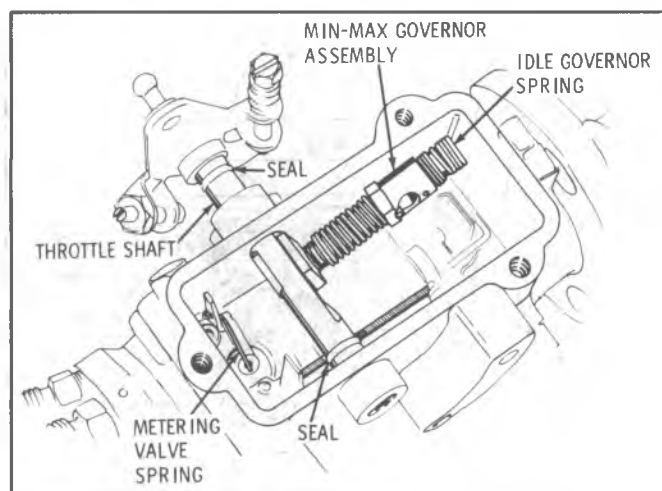

Fig. 6A6-8--Injection Pump Cover Removed
8. Reinstall the guide stud with a new washer making certain that the upper extension of the metering valve spring rides on top of the guide stud. Torque the guide stud to 9.5 N·m (85 in. lbs.) Overtorquing the guide stud may strip the aluminum threads in the housing (Figs. 6A6-5 and 6A6-8).
10. Install new pump cover seal. Make sure the screws are not in the cover and position the cover about 1/4 inch forward (toward shaft end) and about 1/8 inch above the pump (Fig. 6A6-10).
13. Turn the ignition switch to the run position and touch the pink solenoid wire to the solenoid. A clicking noise should be heard as the wire is connected and disconnected. If this clicking is not observed, the linkage may be jammed in a wide open throttle position and the engine **MUST NOT** be started. If clicking is observed, connect the pump solenoid and (housing pressure cold advance if equipped) wires (Fig. 6A6-5), then proceed to step 16.